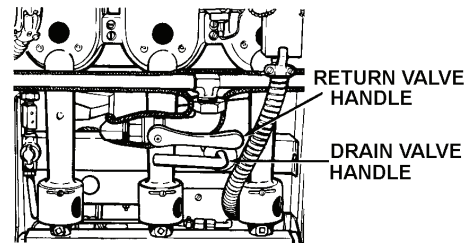

FIGURE 6. FRYER VALVE HANDLES
1. In fryer cabinet, have return valve handle located directly above the drain valve set to oil flow to fryer. Refer to Figure 6.
Set the return valve to "oil flow to hose." See Figure 6 & 7.